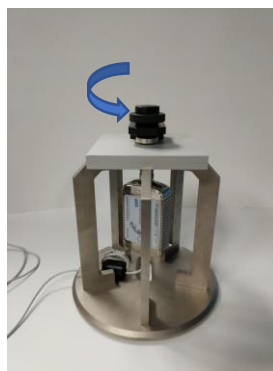
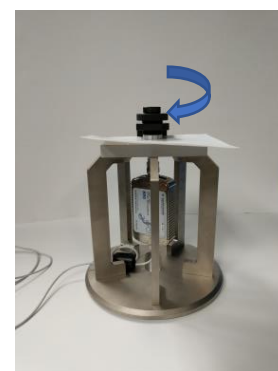

Figure 9. Raise Electrode
Figure 10. Lower Electrode
3. Turn the top knob counter-clockwise to raise the top electrode of the EpsilonMeter (Figure 9). Place the Teflon Calibration Sample between the two electrodes. Turn the top knob clockwise to lower the top electrode until lightly snug (Figure 10). Then use the torque-limiting knob by applying downward pressure while turning clockwise to lower the top electrode to its final force.